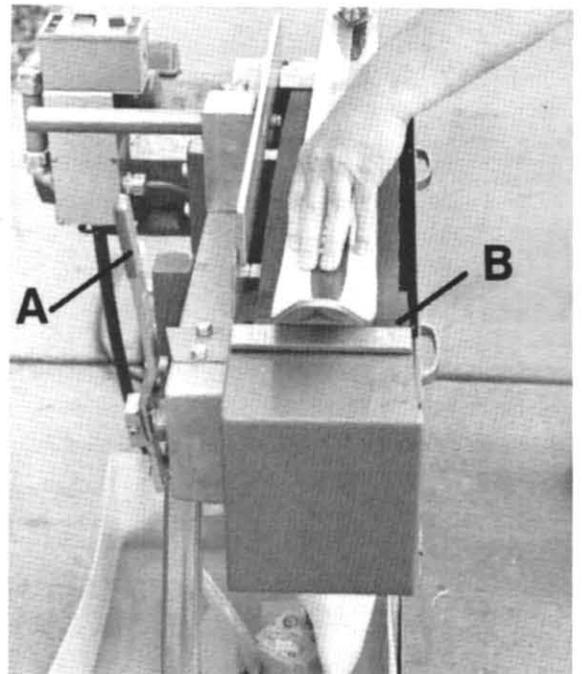

Fig. 2
2. Install an abrasive belt: open belt guard doors (A) Fig. 1, move belt release handle to the release position (A) Fig. 2 and slide belt over wheels. Move belt tension handle to the tension position and shut belt guard doors.
6. Base Grinding on Platen: Use smooth even passes over the entire ski length Fig. 2. Touch the shovel area of the ski to the belt and make a full length pass with medium pressure. After the first pass you can easily see the high and low spots in the ski base. Be careful not to drop ski edge on running belt. The edge can cut through belt and cause it to rip. Continue to grind the base until an evenly ground texture is present. Use a fine belt or a worn coarse belt on the last several passes for a fine finish.
12. Note: to prevent overspray fold the rubber flap (B) Fig. 2 under the wheel overnight to keep the flap in contact with the belt.